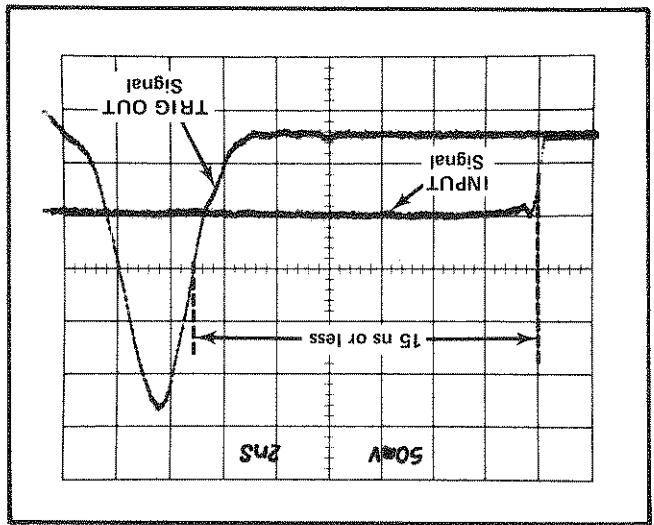

Fig. 5-2. Double exposure photo showing the INPUT signal to TRIG OUT delay time.
- e. Observe the TRIG OUT signal. Check the position of the TRIG OUT signal leading edge at the 50% amplitude point to be 15 ns or less from the reference point (Pulse Output leading edge) set in part c. See Fig. 5-2.